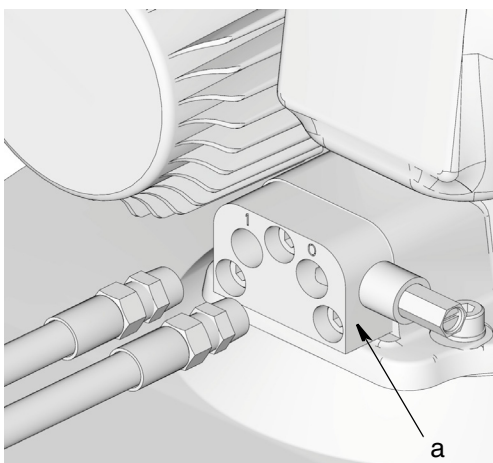

FIG. 2
3. Remove outlet tubing from port marked "0" on the pump adapter block (a) (FIG. 2).
4. Remove plug or inlet tubing from port marked "1" on the pump adapter block (a) (FIG. 2).